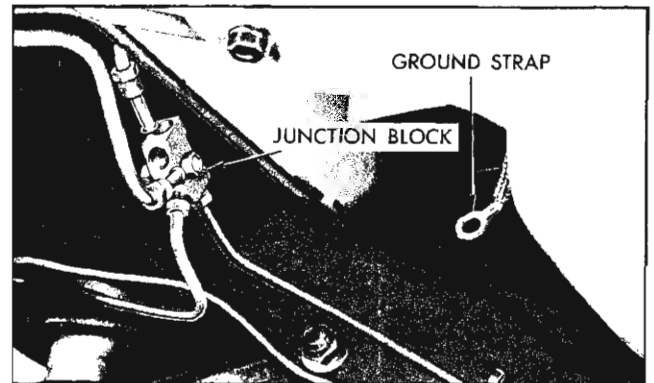

Fig. 3-28 Components to Disconnect From Crossmember
6. Remove ground straps from crossmember on both sides (Fig. 3-28).
7. Disconnect brake lines at junction block on crossmember (Fig. 3-28).